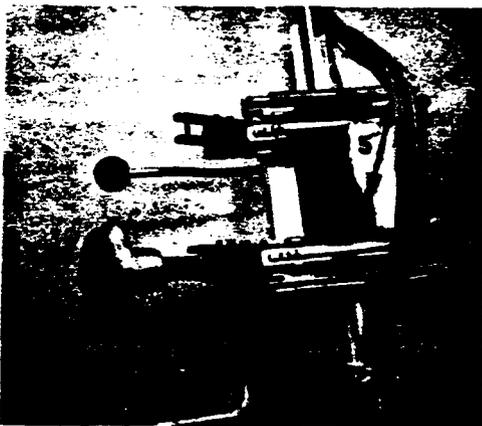

FIG. 20 WIRE BUNDLE IN TOOL
4.35 Clamp a minimum of 14 inches of the wire bundle between the elastic cord cable ties on the R4861 tool. There should be at least 5 inches distance under the bridged (looped) bundle to the tool platform. Wrap the free ends of the elastic cords around the wire bundle; press and secure the cords in the tapered tool slots. See Fig. 20.